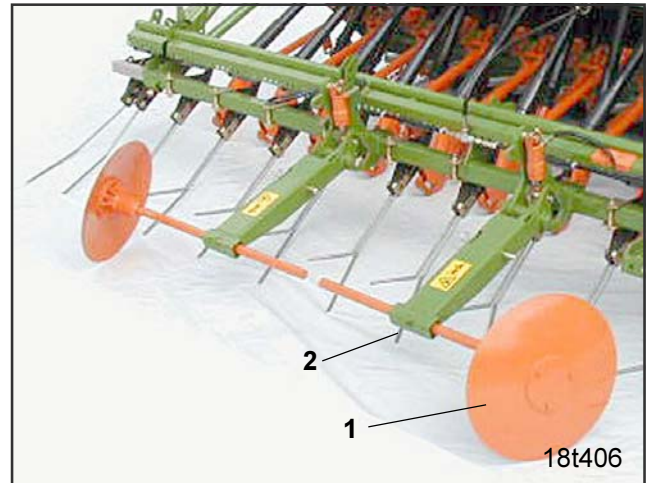

Fig. 16.4
The marker discs (Fig. 16.4/1) trace the tramlines created by the tramlining control unit and have to be set to the correct track width:
- Slacken hex. bolts (Fig. 16.4/2)
- Move the marker discs (Fig. 16.4/1) in the marker disc carrier arm corresponding to the track width of the tramlines.
- Firmly retighten hex. bolts (Fig. 16.4/2).
Tramlining control units with 2-bout switching rhythm or 6-plus switching rhythm are equipped in such a way that the track width of the husbandry tractor is traced when once driving up and down in the field. Therefore only fit one of the two marker discs (Fig. 16.4/1) when using these switching rhythms.